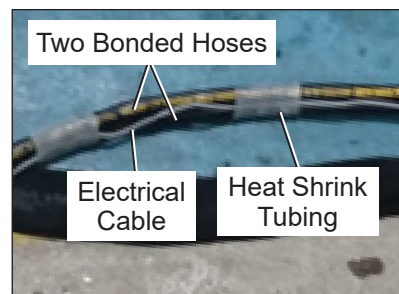

Figure 3 — Dual Bonded Hose
- If the hose assembly is a dual bonded hose with an electrical cable secured along the outside of the hoses by sections of heat shrink tubing (refer to Figure 3), mark "Yes" for the street side hose in Figure 5.